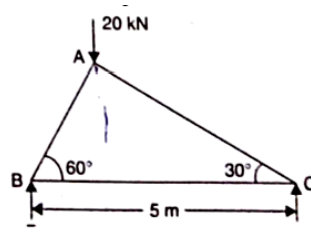

Figure 1
- (b) Find the forces in the member AB, BC and AC of the frame shown in Figure 1 by method of joints. [7M]